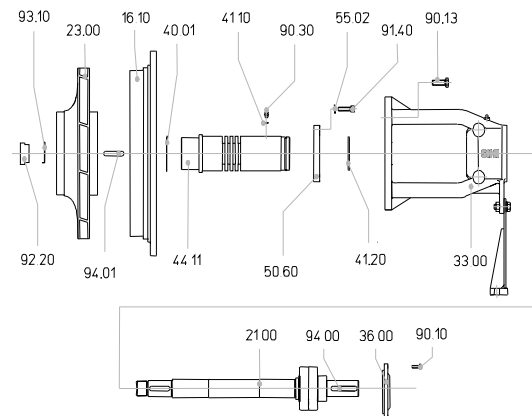

fig. 2
- Detach the shaft nut 92.20 and take off the safety tab washer 93.10. (fig. 2)
- Dismount the impeller 23.00 and the key 94.01.
- Remove the key 94.00, detach the hexagon screws 90.10 and dismount the bearing cover 36.00.